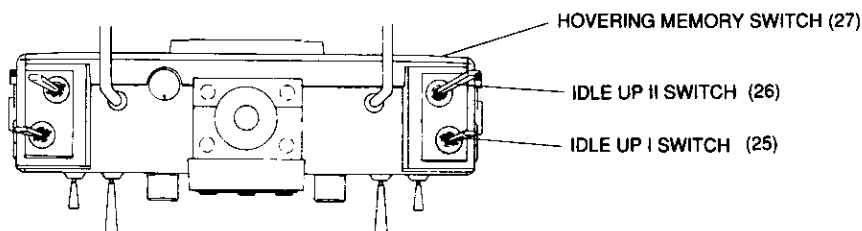

FIGURE 30
2. Set the Hovering Memory Switch (27), Figure 30, to "OFF" and set "Rev Mix" adjustment trimmers as follows: "up or ascent trimmer to 50% travel (from Min to Max); the "DOWN" or descent trimmer to 50% travel (straight up). These are the beginning settings. Next, set the throttle stick to approximately half throttle, and turn Hover Memory Switch "ON".